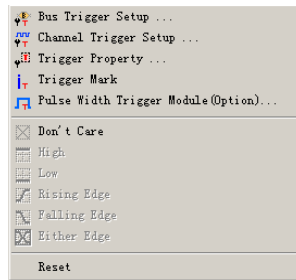

Fig 4-17 -Trigger Menu
**Step1.** Click  icon or click Bus Trigger Setup and Trigger Mark from the Trigger on the Menu Bar. The menu is shown as Fig 4-17.